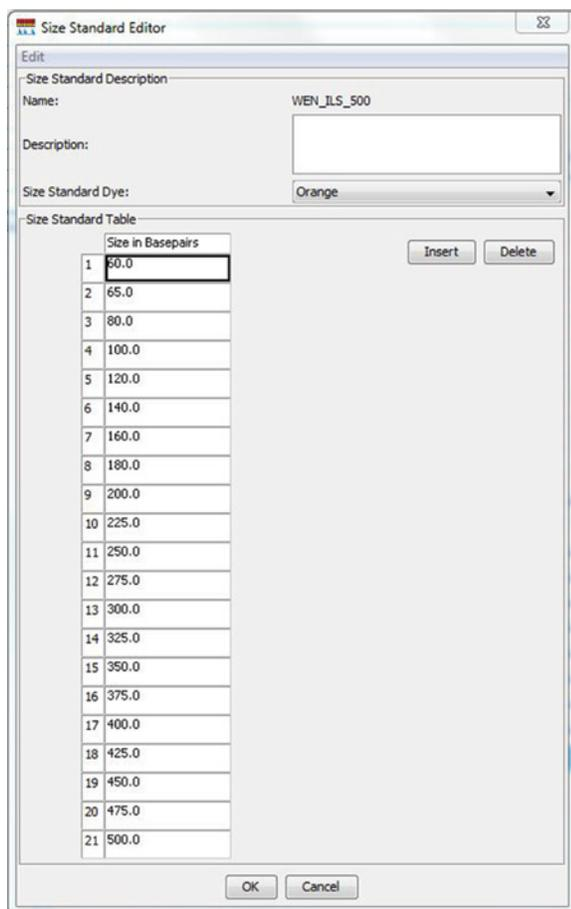

Figure 22. The GeneMapper® Software, Version 5.0, 'Size Standard Editor' window.
4. In the 'Size Standard Editor' window (Figure 22), select **Basic or Advanced** and then **OK**.
7. Enter the sizes of the internal lane standard fragments (60, 65, 80, 100, 120, 140, 160, 180, 200, 225, 250, 275, 300, 325, 350, 375, 400, 425, 450, 475 and 500 bases). See Figure 22.